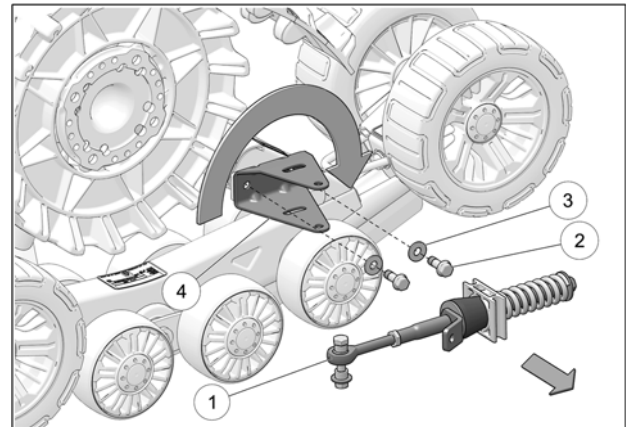
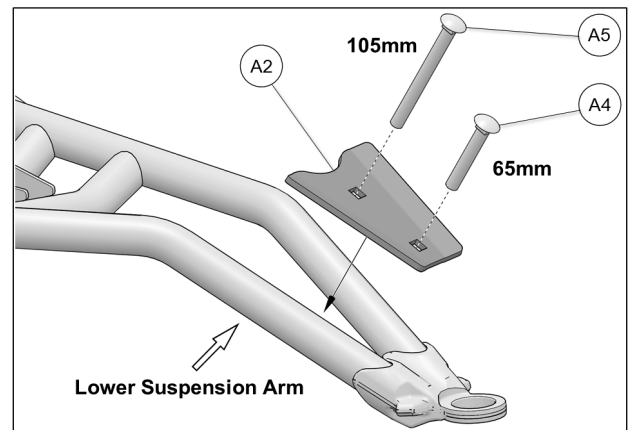

Fig. 13
Fig. 18
5. Remove anti-rotation arm (1). Then remove bolts (2) and washers (3) securing anti-rotation bracket (4) to front Track system. Pivot anti-rotation bracket (4) 180°. See Fig. 13
9. Position the top part of the anchor bracket (A2) over the lower suspension arm as shown in Fig. 13. Insert carriage bolts through square holes provided, M10x65mm bolt (A4) at the front and M10x105mm bolt (A5) at the back. See Fig. 18